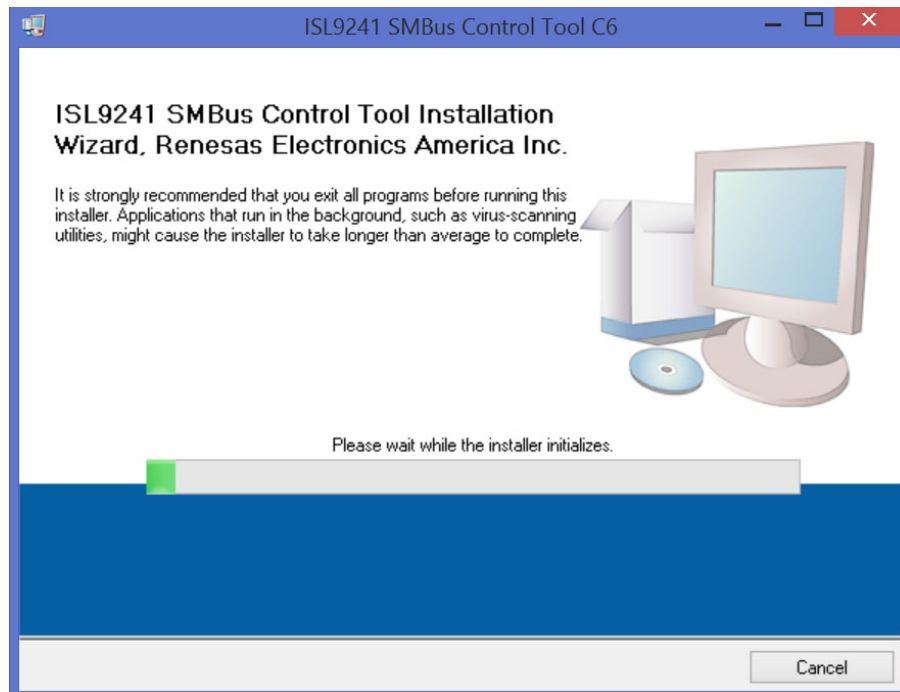

Figure 3. ISL9241 Control Software Installer
- (3) Click **Install ISL9241 SMBus Control Tool**.
- (a) The window shown in Figure 3 appears. Click **Next**.